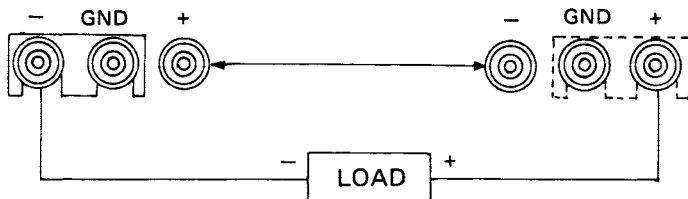

Fig. 6-3
- (a) For the negative grounding: As shown by a solid line in Fig. 6-3
- (b) For the positive grounding: As shown by a dotted line in Fig. 6-3